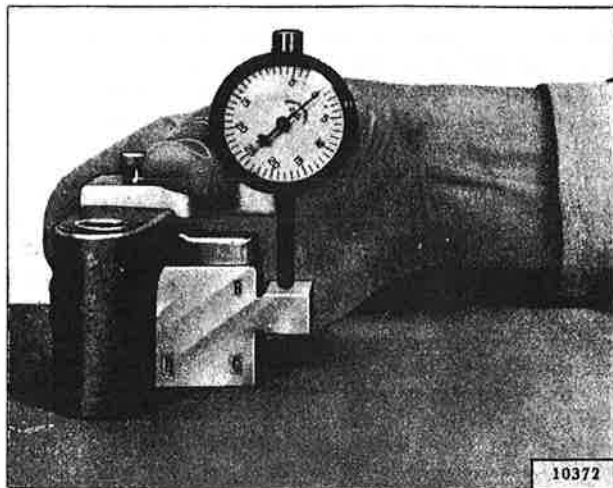

FIG. 252—PINION MASTER GAUGE
- Refer to Fig. 252.
The dial gauge is set to the master gauge for the different axles as shown in Fig. 252. Use the correct master gauge surface for the model axle being adjusted. Hold the dial indicator and gauge as shown and set the dial bezel to position the hand at zero with one-half turn tension on the gauge pin. This sets the dial to register at zero when mounted in the axle when the distance between the finished head of a standard pinion and the center of the differential carrier is spanned. After setting the dial, use care not to jar it or turn the bezel to disturb the setting. Assemble the pinion in the case with the same thickness shim packs originally installed and without the oil seal.